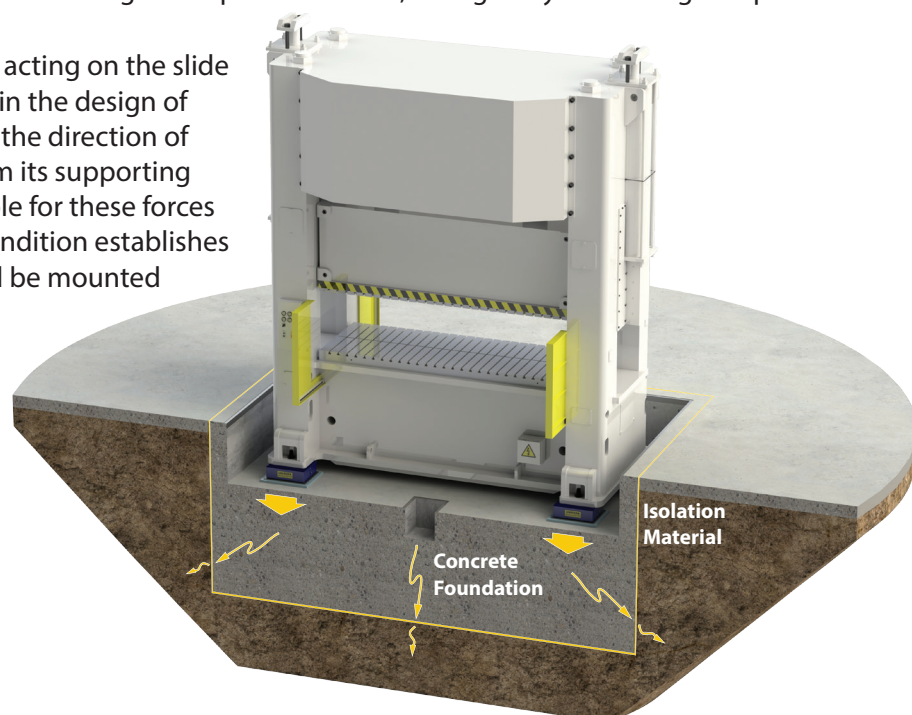

Figure 3
**3. Slide inertia forces** result from acceleration acting on the slide and are an extremely important consideration in the design of a press mounting system. They act primarily in the direction of slide travel and potentially lifting the press from its supporting surface. In some high speed presses it is possible for these forces to exceed the dead weight of the press. This condition establishes a limitation as to whether or not a press should be mounted on freestanding mounts. Machines which are manufactured with dynamic balancing equipment do not have this problem, and can safely be mounted on press mounts (see Figure 3). Older high speed presses should be securely bolted down, and are good candidates for isolated foundations.